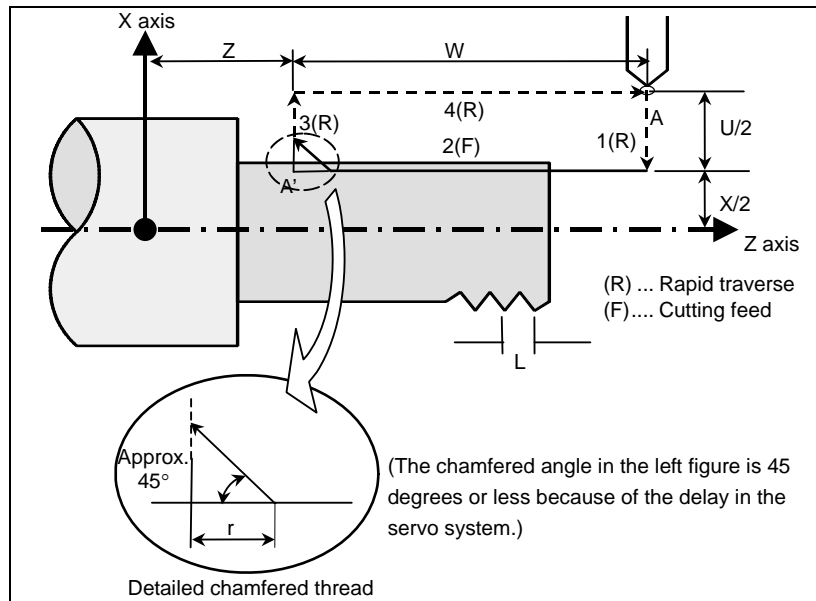

Fig. 6.3.2.1 (a) Straight threading cycle
- X\_,Z\_ : Coordinates of the cutting end point (point A' in the Fig. 6.3.2.1 (a)) in the direction of the length
- U\_,W\_ : Travel distance to the cutting end point (point A' in the Fig. 6.3.2.1 (a)) in the direction of the length
- F\_ : Thread lead (L in the Fig. 6.3.2.1 (a))